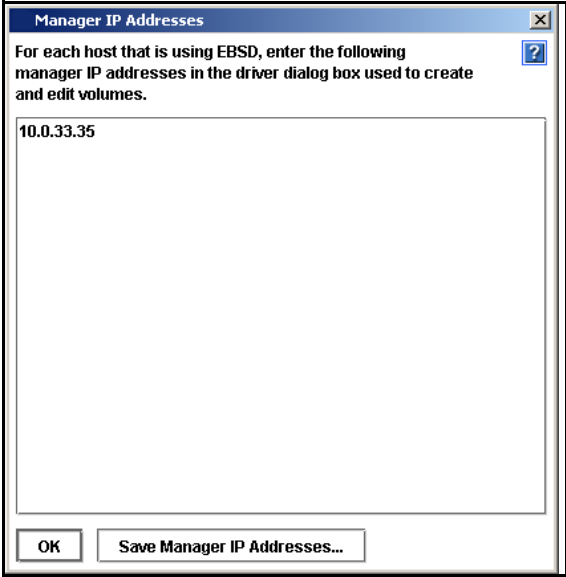

Figure 135. List of Manager IP Addresses for Management Group
- 5. Click Add. The Managers IP Addresses window opens, shown in Figure 135.